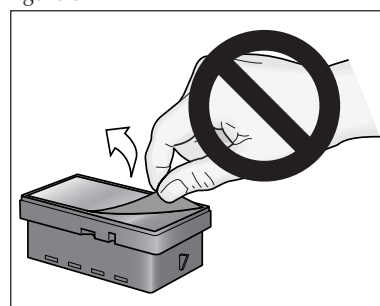

figure 4
**NOTE:** Do not peel off the clear protective film before engraving the stamp (see figure 4).